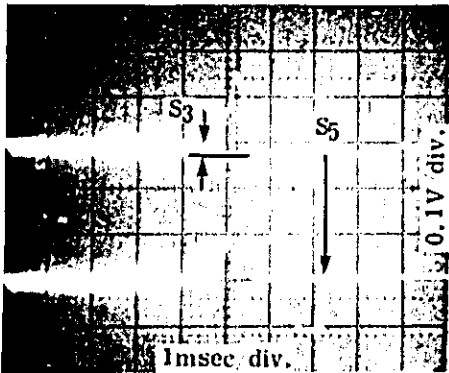

Figure 5-15. Waveform at A7TP2 (2).
- d. Adjust the DELAY (DIV) potentiometer slowly to about 3 to observe timing step 3 thru 5 as shown in Figure 5-15. Adjust A7R52 for same DC level of steps 3 and 5 as shown in Figure 5-15. S3 and S5 segments are adjusted to the same DC level.